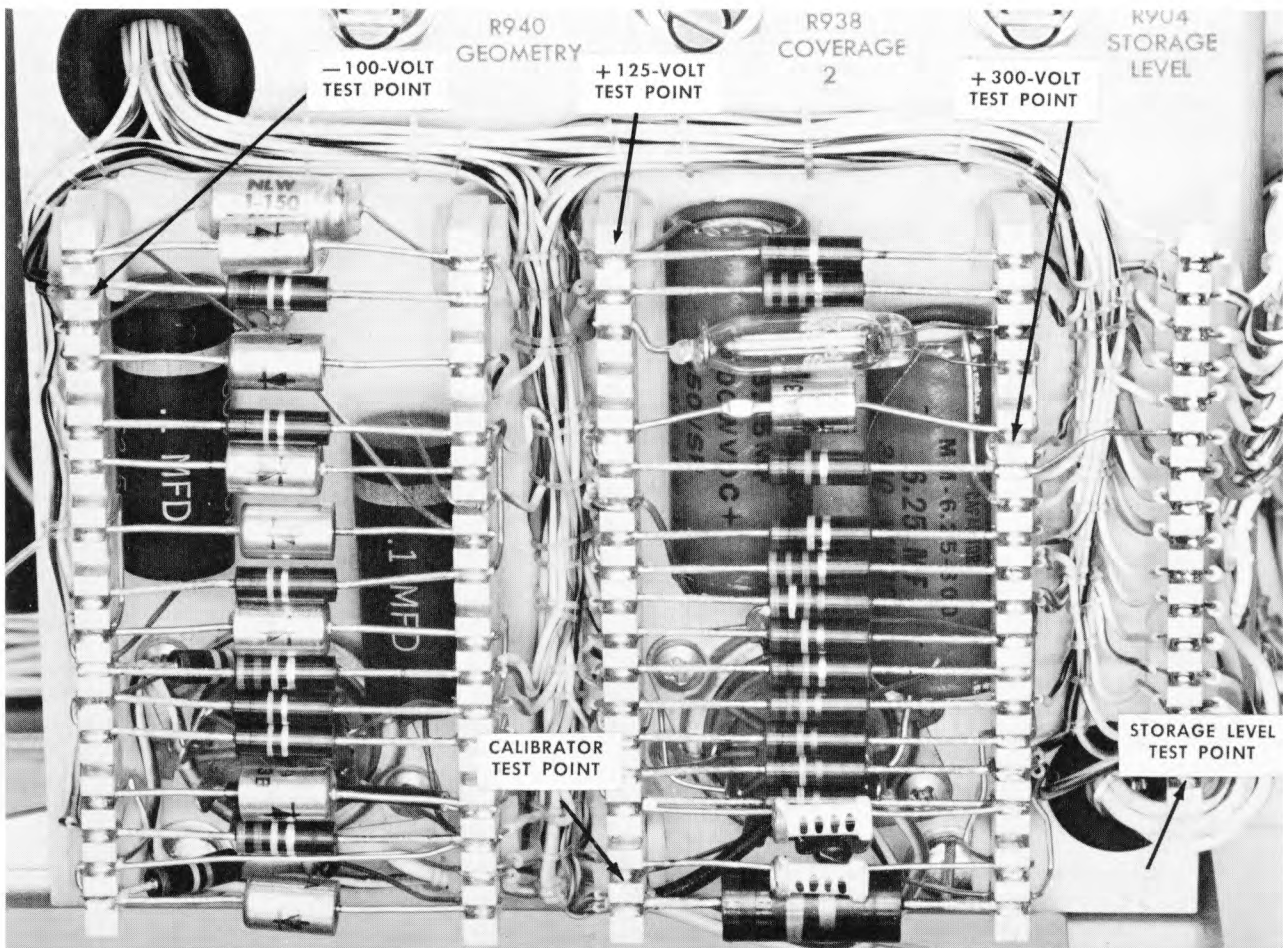

Fig. 4-1. Voltage test points on sub-chassis directly over horizontal plug-in compartment.
1. Connect the dc meter to the -100 -volt test point (see Fig. 4-1). Adjust R616 (-100 -VOLT control) for exactly -100 volts. Check regulation by varying the autotransformer from 105 to 125 volts (or 210 or 250 volts). The -100 volts should stay within 1%. Return the autotransformer output to 117 (or 234) volts.
Turn the CALIBRATOR switch to OFF, and connect the dc meter to the calibrator test point (see Fig. 4-1). Adjust R871 (CAL AMPL control) for exactly $+100$ volts. A check of each step of the CALIBRATOR switch can be made by using the following procedure. Unsolder the white with black stripe wire from the rear wafer of the CALIBRATOR switch. Turning the CALIBRATOR switch will now leave the cathode of V884B at $+100$ volts (no output square-wave), and the ratio voltage of each cathode resistor will appear at the front panel CAL. OUT connector. Connect a non-loading dc meter to the CAL. OUT connector, and check the voltage at each position of the CALIBRATOR switch. All voltages should be within 3%. Reconnect the white-black lead.
3. Connect a dc voltmeter (0-300 volts) to the storage level test point (see Fig. 4-1).